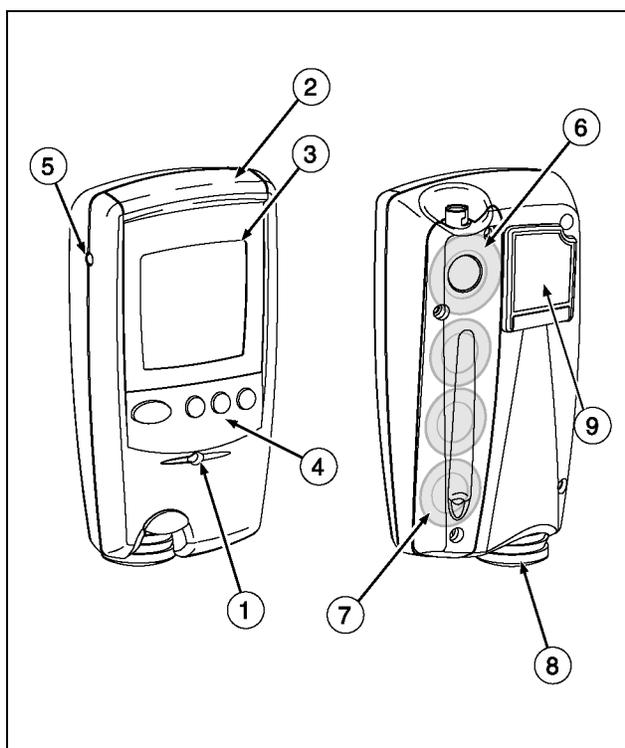

Figure 1. GasAlertMax Detector
- Figure 1 and Table 3 describe the detector's components.